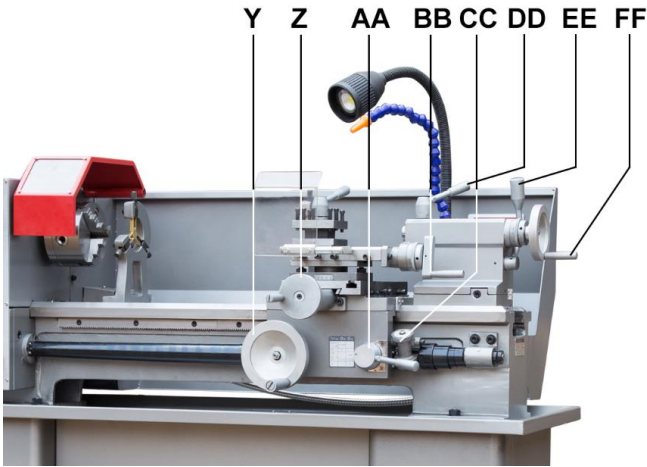

Figure 10-6: Machine controls
Apron travel (Y, Fig 10-6), cross travel (Z) and top slide travel (BB) can be operated for longitudinal and cross feeding.
Move the half-nut lever (AA, Fig 10-6) down, to engage the automatic longitudinal feed. Move it up to disengage
Engage the halve nut (AA, Fig 10-6).